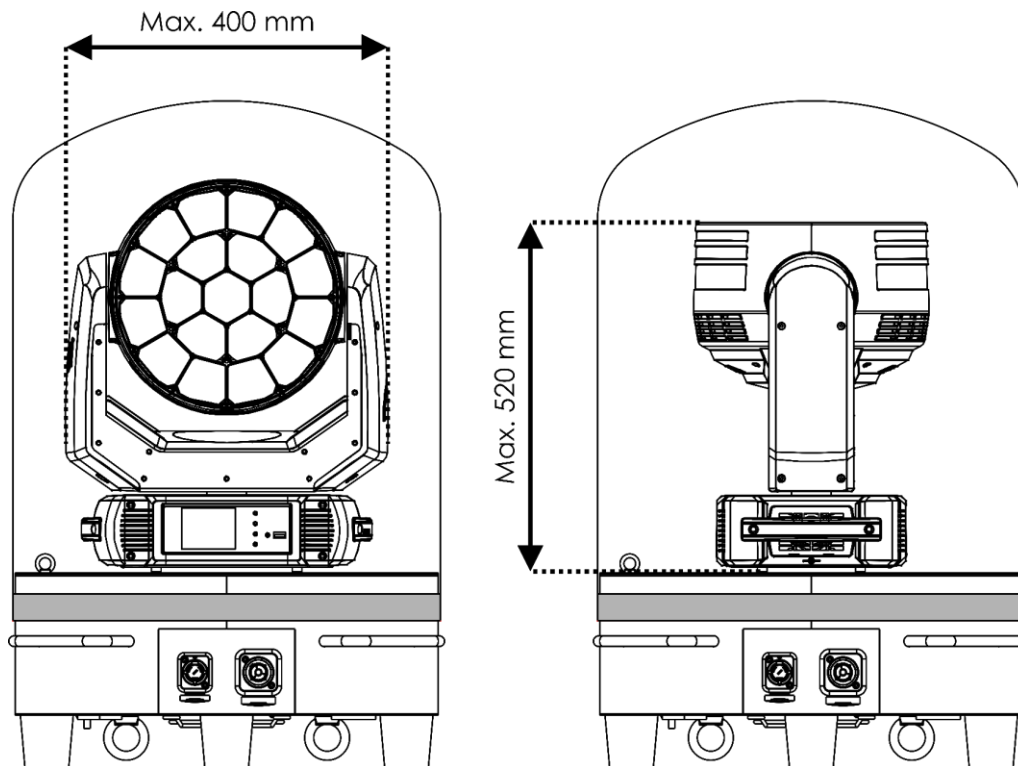

Fig. 15
- a maximum height of 52 cm (in combination with the Cylindrical Sleeve for Rain Dome 40 (71326)). See Fig. 15 on page 15 for more information.